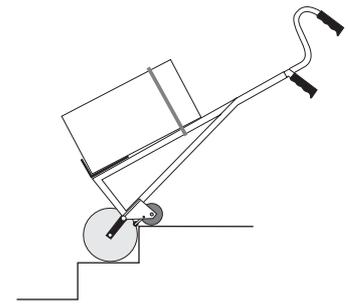

FIGURE 37
**As soon as the big wheels touch down on the next lower step (see Figure 37), pull the CargoMaster slightly toward you.**